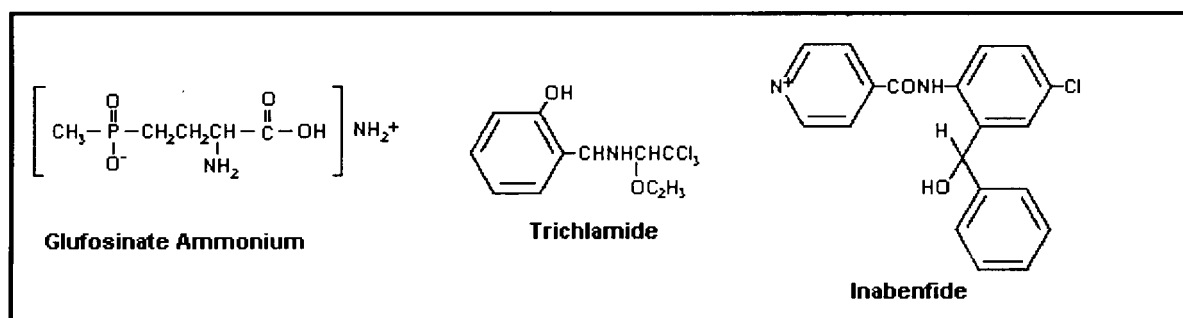

Figure 1 - Structures of Glufosinate, Triclamide, and Inabenfid
atomic absorption spectroscopy (AA), and gas chromatograph/mass spectrometry (GC/MS). Examples of analysis with the capillary column in GC have already been described in the previously published Application News G153 and G166. The following note describes the analyses for Glufosinate, Triclamide, and Inabenfid (Figure 1), components that belong to the set of 19 newly listed agricultural chemicals. Sample pretreatment is required before analysis for these components can be done.